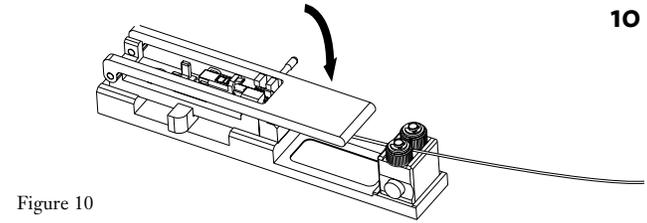

Figure 10
10. Rotate the crimp handle 180° until it contacts the lead-in tube (Figure 10). Push the handle down firmly and lift it back up.